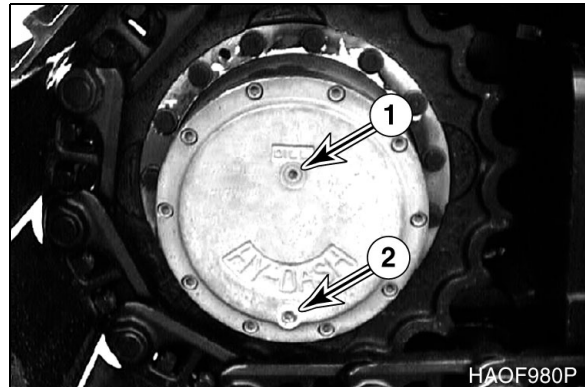

Figure 70
- Rotate the track until ports (1 and 2, Figure 70) are in their proper positions as shown.
- Place a container under drain plug (2, Figure 70) and remove plugs (1 and 2) to drain the travel motor fluid.
- Install drain plug (2, Figure 70). Refill the travel motor case with fluid through fill port (1) until the fluid level is at port. Install level and fill plug (1).